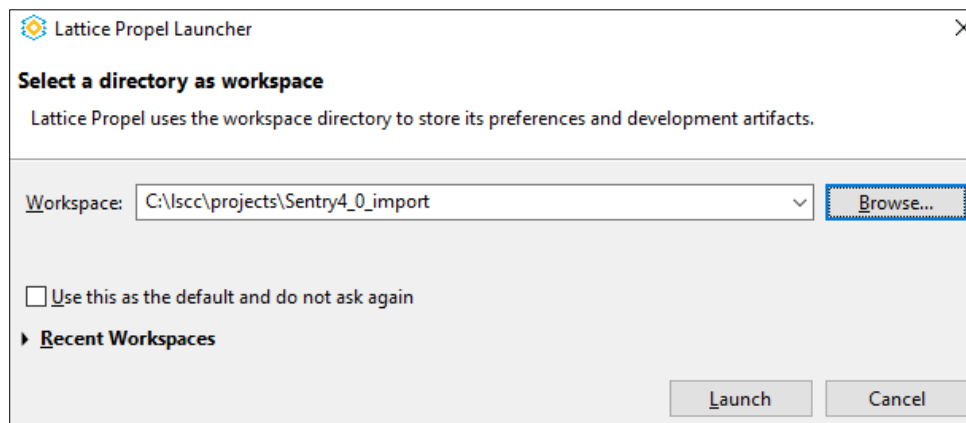

Figure 5.2. Lattice Propel Launcher – Select the Directory for Importing SoC and C Projects
2. In the Lattice Propel launcher, click **Browse** and navigate to the directory created in the Create a Blank Workspace section, Step 1 (Figure 5.2).
2. In Lattice Propel Launcher, click **Browse** and navigate to the directory created in the Create a Blank Workspace section, Step 1 (Figure 5.2).